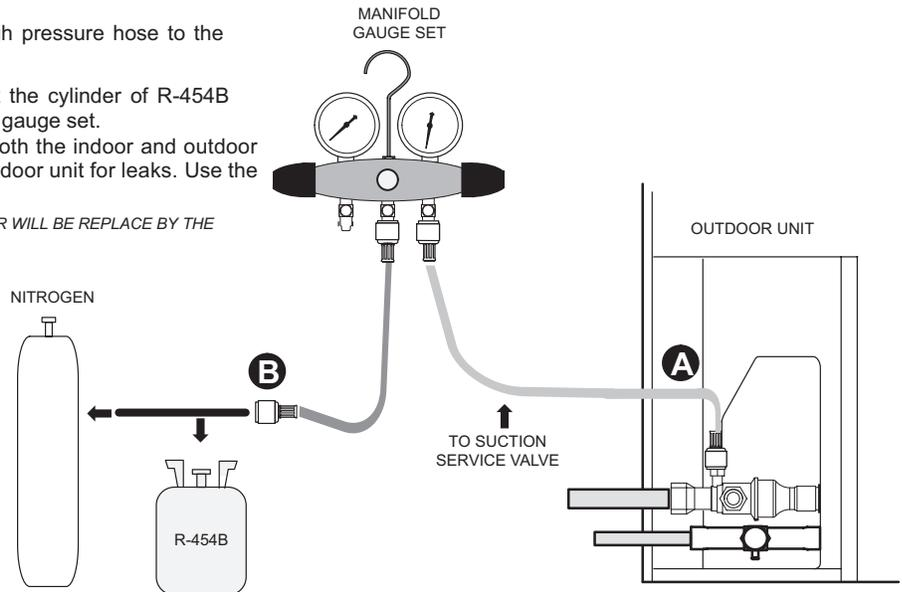

FIGURE 7
- 1 - Connect an R-454B manifold gauge set as illustrated in FIGURE 7.